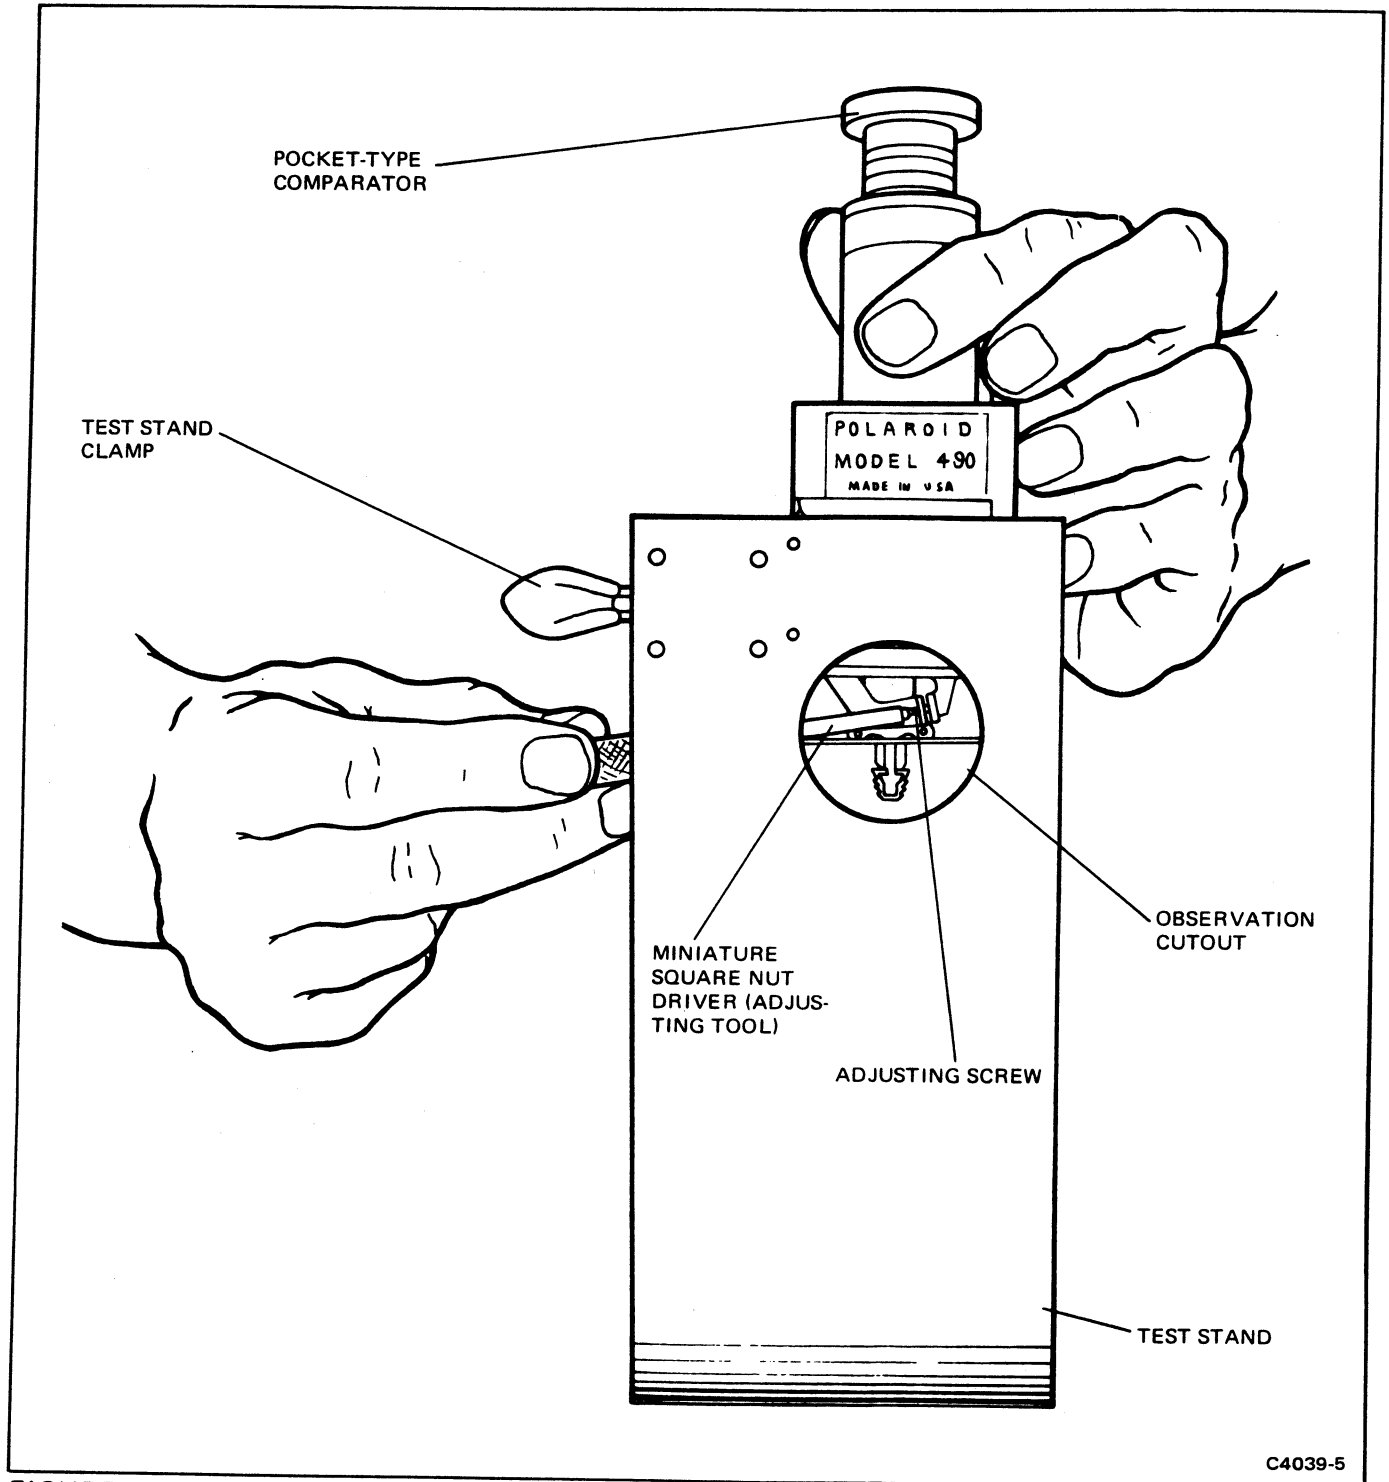

FIGURE 5 ADJUSTING BLIND OPENING
9. Place the special miniature square nut driver in position on the blind adjusting screw. The screw can be observed through the circular opening in the test stand (see Figure 5).